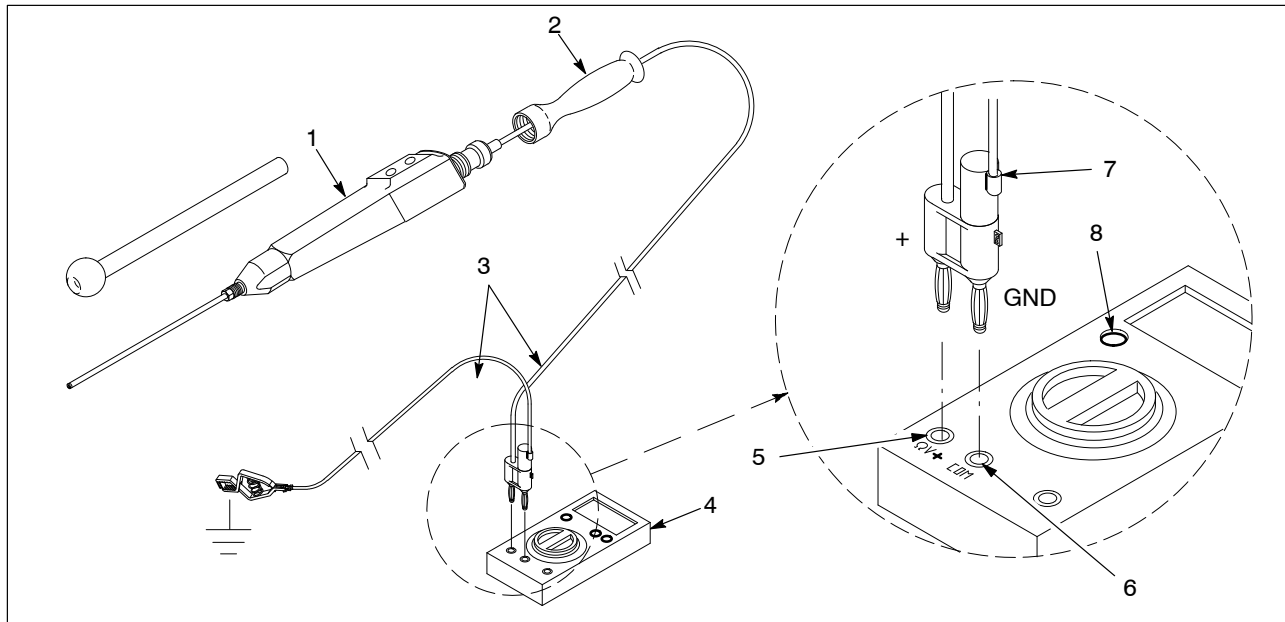

Figure 2 Kit Setup
1. See Figure 2. Connect the BNC/ground cable (3) to the probe (1). Slide the handle (2) over the cable connector and screw it onto the probe.
2. Connect the dual-plug banana connector (7) to the DMM (4) as shown.
- a. Plug the ground (GND) pin into the common (black) socket (5).
- b. Plug the positive (+) pin into the V $\Omega$  (red) socket (6).